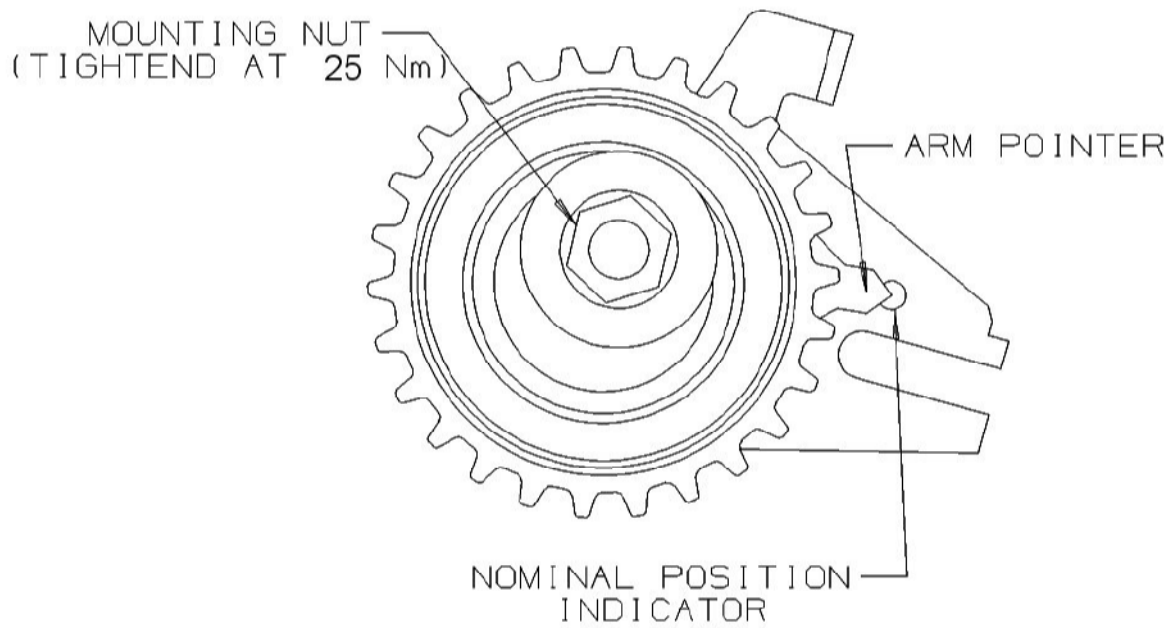

Figure 4: Tensioner properly installed at room temperature (20°C).
11. Watching the movement of the *Arm Pointer*, slowly retract the tensioner away from the belt until the *Arm Pointer* aligns with the *Nominal Position Indicator (hole)* on the base plate. Then torque the *Mounting Nut* to **25 Nm** using a torque wrench (See Figure 4).